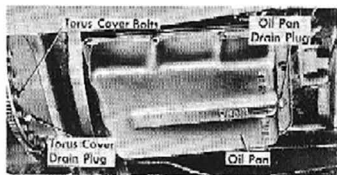

Fig. 94—Drain Plugs on Transmission
1. Turn flywheel until torus cover plug is at lowest point. Remove torus cover drain plug (fig. 94) and thoroughly drain torus cover.
2. Remove oil pan drain plug (fig. 94) and thoroughly drain oil pan.